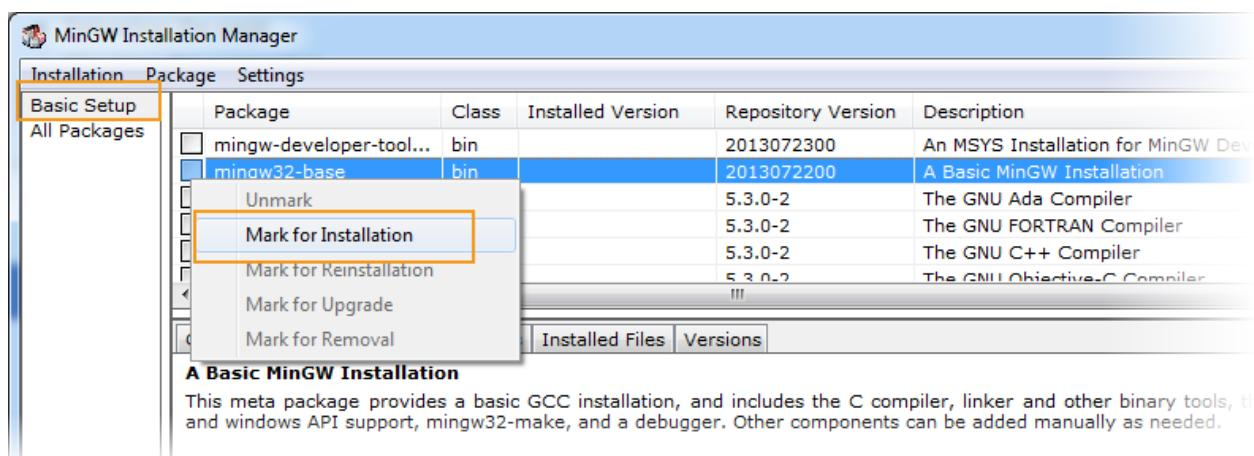

Figure 37. Basic setup on MinGW Installation Manager
- 5) Select **msys-base** and **mingw32-base** from **Basic Setup** package list, and right click to bring up the menu options. Click **Mark for Installation** from the menu (see Figure 37).